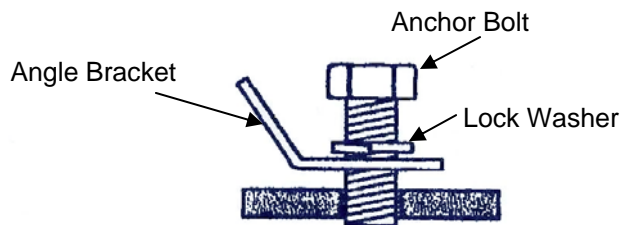

Figure 1
- a. If the vehicle is equipped with pre-threaded seatbelt fastening holes and the seat is mounted in the original location. Attach the angle brackets to these holes as shown in Figure 1 below.